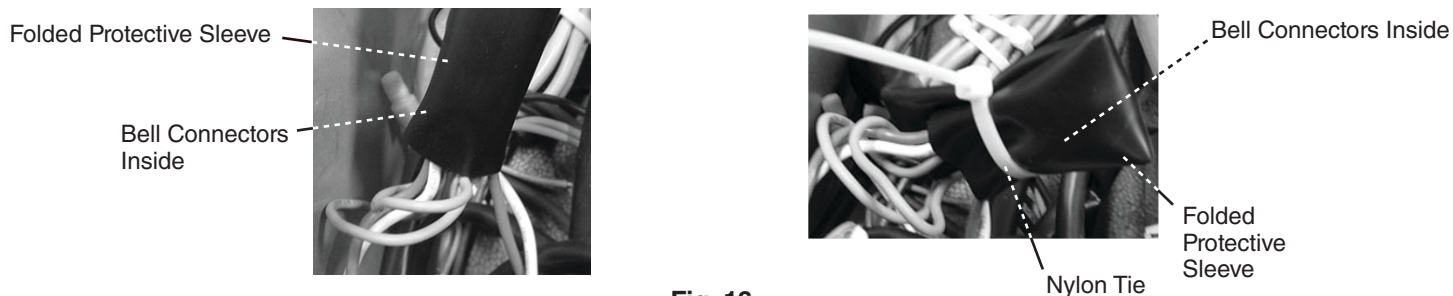

Fig. 16
- 14) Slide the bell connectors into the protective sleeve removed in step 8, then fold the protective sleeve and secure using a nylon tie provided in this kit. See Fig. 16.